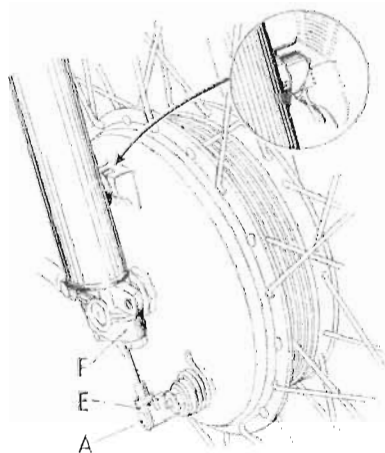

Fig. 20. The front wheel assembly.
Slacken off the brake cable adjustment at the handlebar and withdraw the pivot pin (A) and its split pin from the clevis (E) at the lever on the brake plate (Fig. 20). The cable can then be extracted through the slot in the abutment mounted on the brake plate.